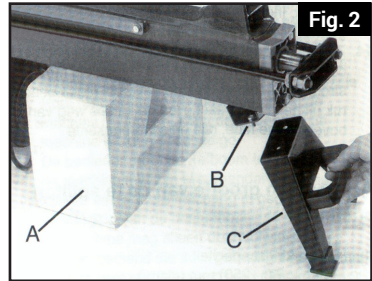
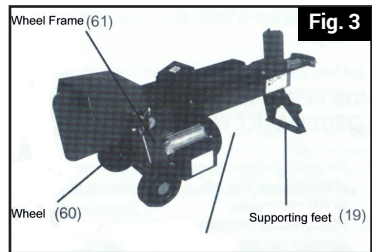

Fig. 2
Fig. 3
1. Carefully unpack the Main Body of the Log Splitter from the box and, with the help of another person, place it on the foam material included with the box. (See Figure 2)
2. Place the supporting feet (C in Figure 2) and attach to the Main Body (B in Figure 2). Attach using 2 screws (21) and 2 nuts (20) then tighten. (See Figure 3)
3. While the Main Body is still supported on the foam block, attach safety rings (59) and the 2 wheels (60) to the shaft of the wheel frame (61), then use the wheel shaft cover (58) to cover the wheels.
4. Make sure that the wheels are able to turn freely and uniformly. (See Figure 3).